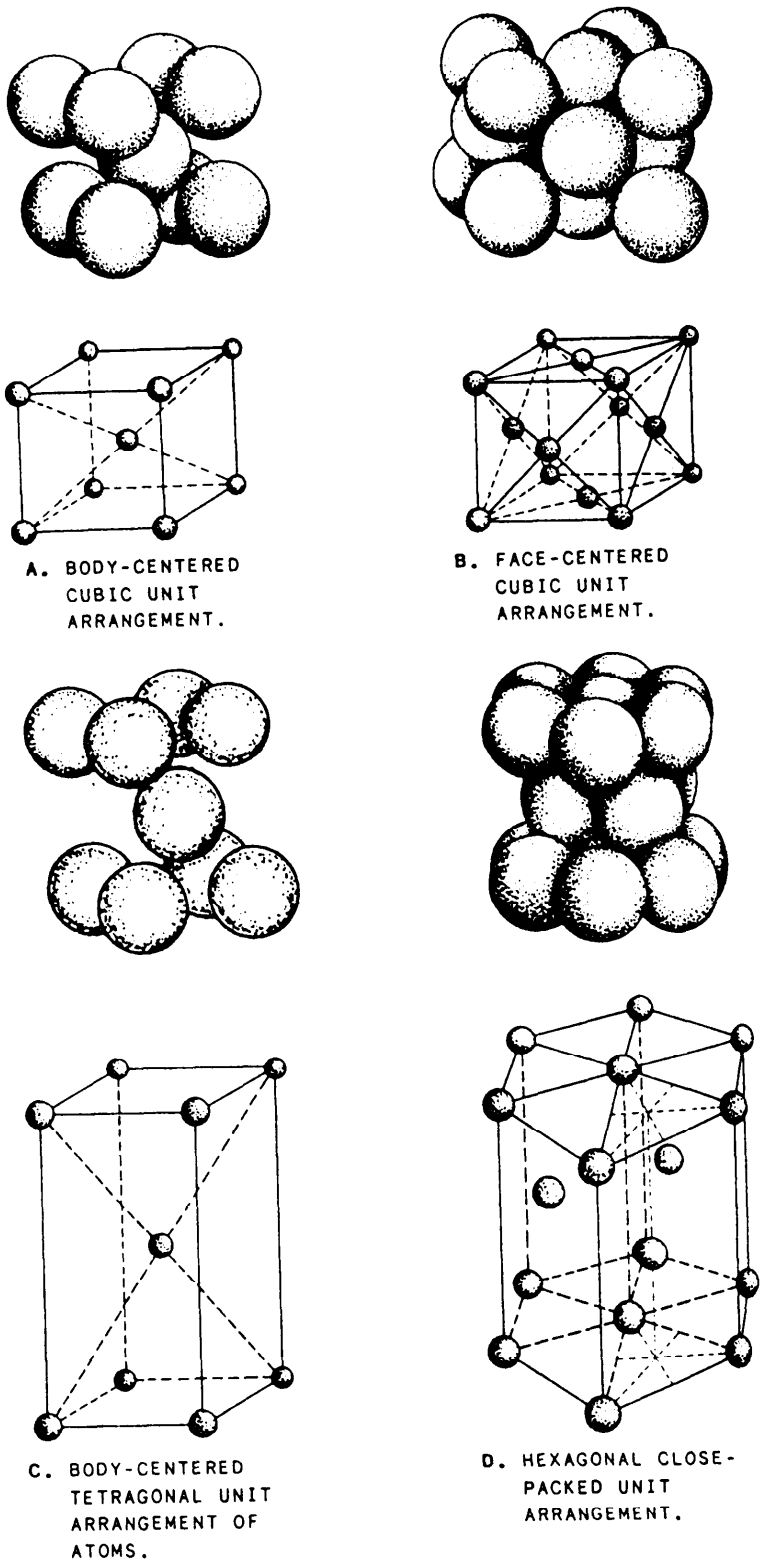

Figure 15-1.—Atom arrangement in a space lattice system.
**GRAINS** (irregularly shaped crystals developed from the converging lattices). These irregularly shaped crystals are formed as the metal cools and changes from a liquid state to a solid state. This change of state is called **FREEZING** or **SOLIDIFICATION**. As the metal freezes, its atoms lose the energy of motion they had in the metal's liquid state. The slow-moving atoms become attached to one another, usually in one of four predictable patterns, depending on the type and composition of the metal. These patterns are shown in figure 15-1 and will be discussed in greater detail later in this chapter.
The arrangement of atoms (the most basic unit of matter) in a crystal can be shown by a graphic illustration called a **SPACE LATTICE**. Each of the four line-dot drawings in figure 15-1 is a space lattice. The dots represent atoms, while the lines make the shape easier to visualize.
The body-centered cubic lattice (fig. 15-1, view A) contains nine atoms, one at each corner of the cube and one at the center of the cube. In this arrangement, each atom is held in position by the force of the remaining eight atoms.
The face-centered cubic lattice (fig. 15-1, view B) contains 14 atoms, one at each corner of the cube and one at the center of each face of the cube. In this arrangement the atoms are more dense (closely packed) than in the body-centered arrangement. Metals that have a face-centered cubic lattice structure include nickel, aluminum, copper, lead, gold, and silver.
The body-centered tetragonal lattice (fig. 15-1, view C) contains nine atoms and looks like a body-centered cubic lattice stretched in one dimension.
The hexagonal close-packed lattice (fig. 15-1, view D) contains 17 atoms. This structure does not have the high degree of symmetry evident in the cubic structure, and as a result this type of structure is very difficult to deform. Metals that have this structure have little plasticity and are very difficult to work cold. Some examples of this type of metal are cadmium (Cd), cobalt (Co), magnesium (Mg), titanium (Ti), zinc (Zn), and beryllium (Be).